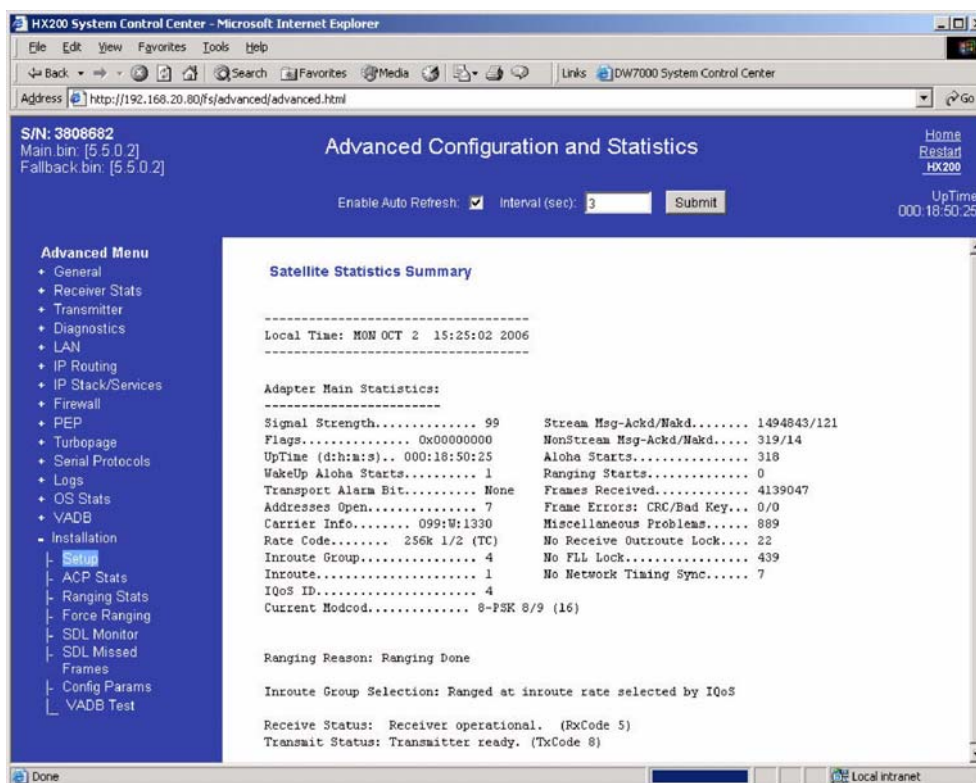
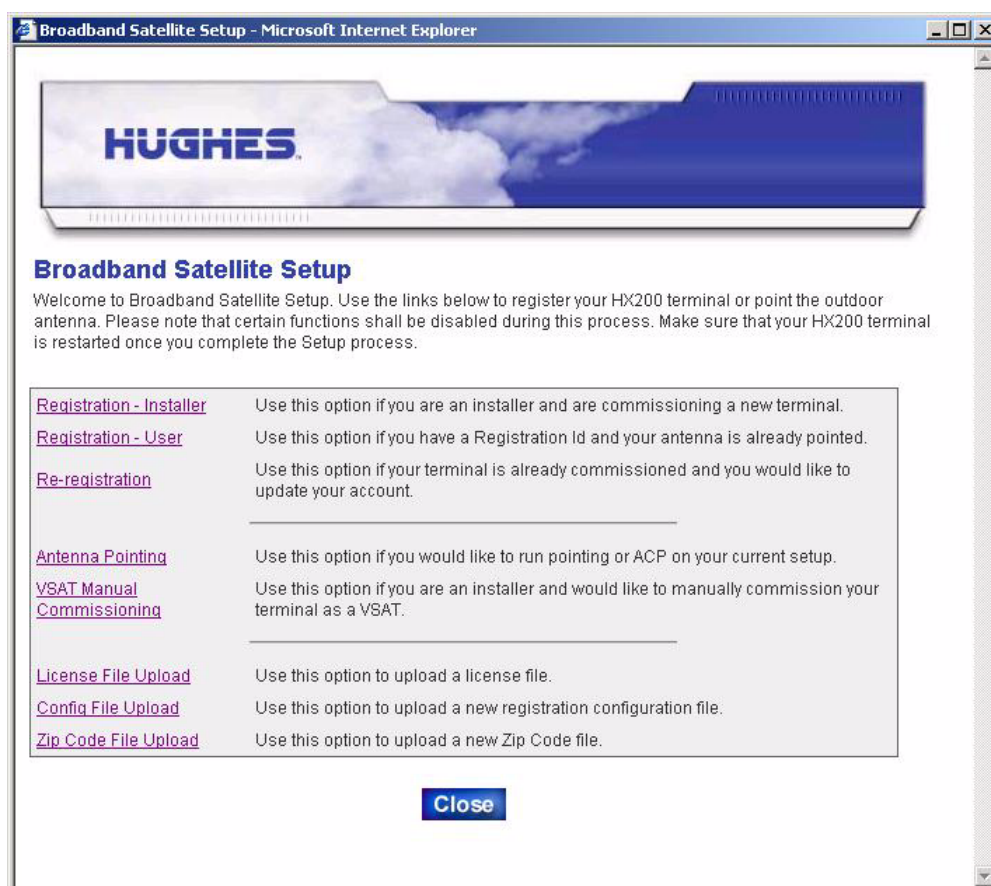
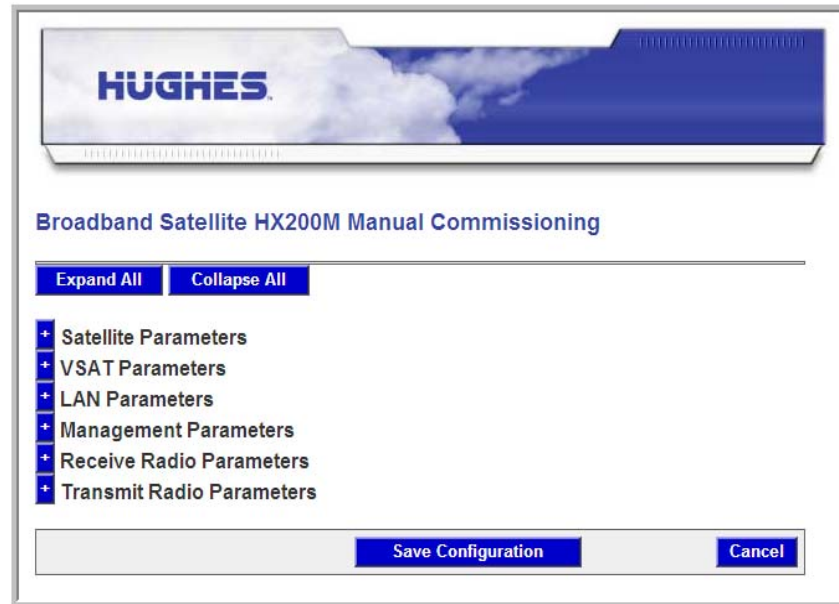

Figure 6: Advance page
Figure 7: Commissioning Setup page
Figure 8: Broadband Satellite HX200 Manual Commissioning screen
2. Click the **Setup** link (Figure 6) to display the Setup page shown in Figure 7.
3. Click the **VSAT Manual Commissioning** link on the Setup page (Figure 7) to display the HX200 Manual Commissioning Page as shown in Figure 8.
- c. Click the **VSAT Manual Commissioning** link on the Setup page as shown in Figure 7.
The parameters on the Manual Commissioning page are divided into the following six sections as shown in Figure 8: